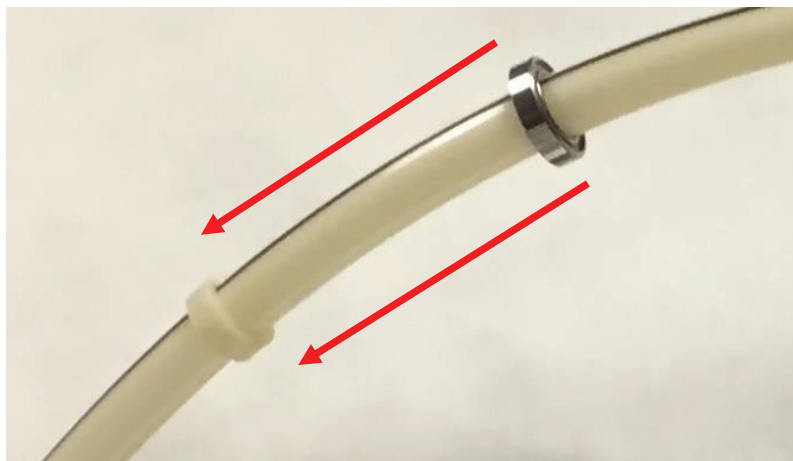

Figure 4-9b Slide the bearing(s) into position
2. To proceed, slide the bearing(s) into position to completely rest against the bearing stop. Use one hand to hold the drive tube and the other to slide the bearing (see *Figure 4-9b and 4-9c*).